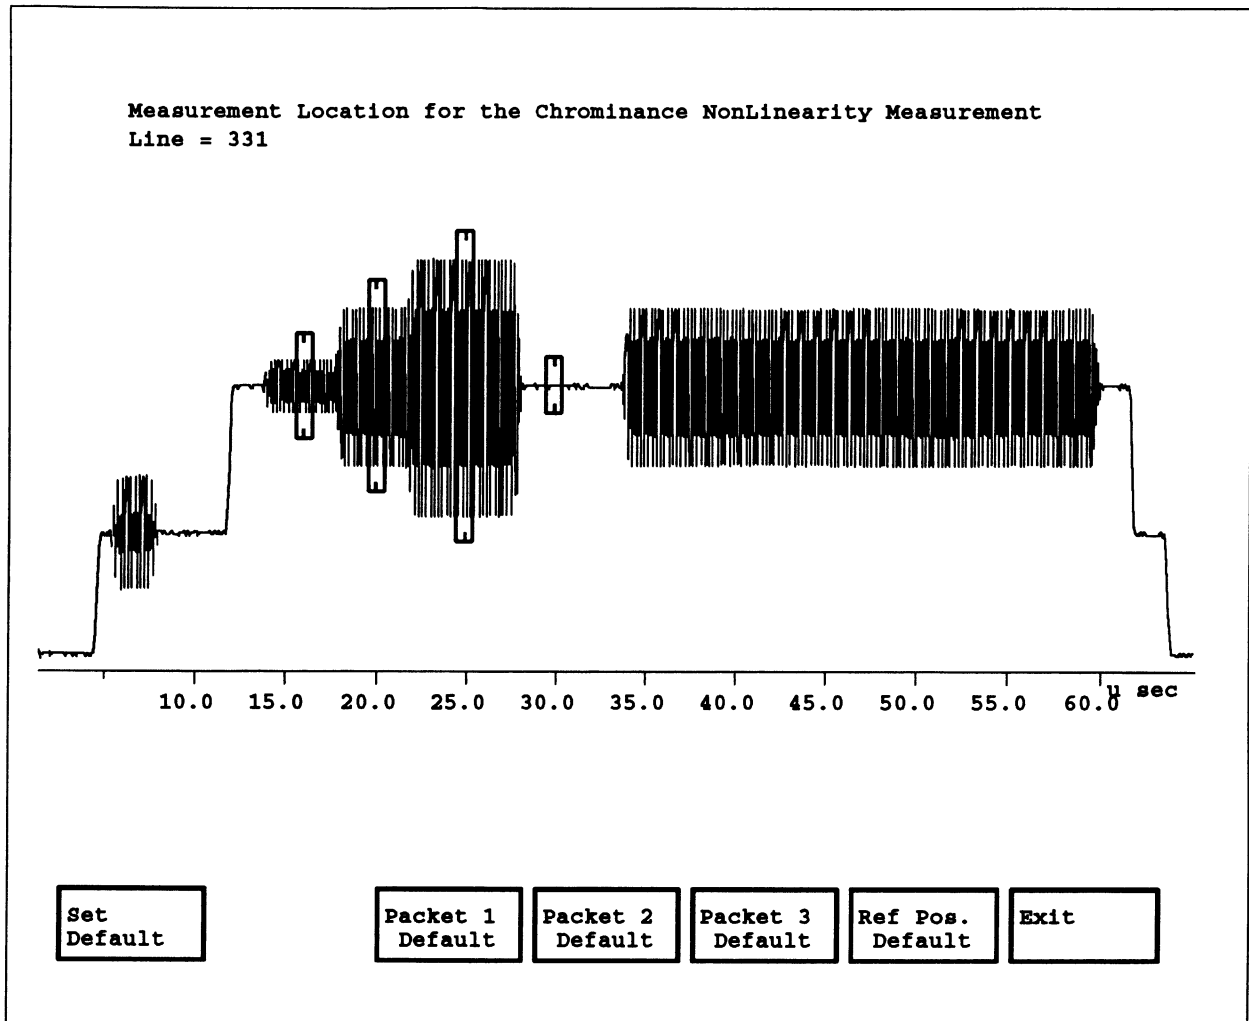

Figure 2-15. Chrominance NonLinearity special position display.
**Special Position** displays the Special Position submenu and a special waveform display used to set the location on the waveform where the measurement is made. Figure 2-15 shows the Chrominance NonLinearity Special Position display and submenu.